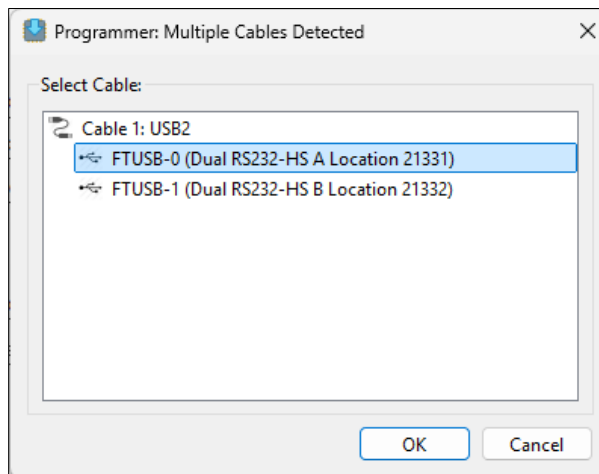

Figure 4.18. Select Cable – FTUSB-0 Option
- b. Click **OK** to confirm (Figure 4.18).